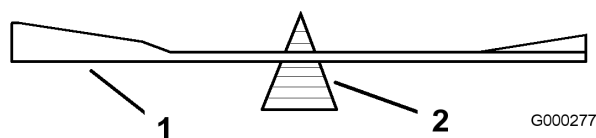

Figure 43
2. Check the balance of the blade by putting it on a blade balancer (Figure 43). If the blade stays in a horizontal position, the blade is balanced and can be used. If the blade is not balanced, file some metal off
the end of the sail area only (Figure 43). Repeat this procedure until the blade is balanced.